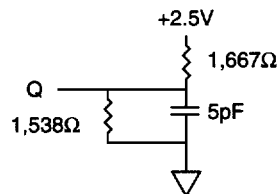

Figure 2
2. This parameter is measured with output load as shown in Figure 2.